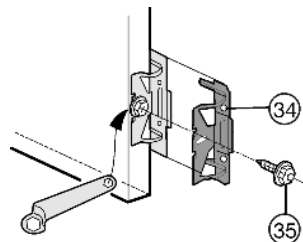

Fig. 11
- ▶ Screw all the mounting brackets *Fig. 11 (34)* to the pre-drilled holes in the appliance door using hexagon screws *Fig. 11 (35)*.
- ▶ fit a 3rd pair of mounting brackets *Fig. 11 (34)*.